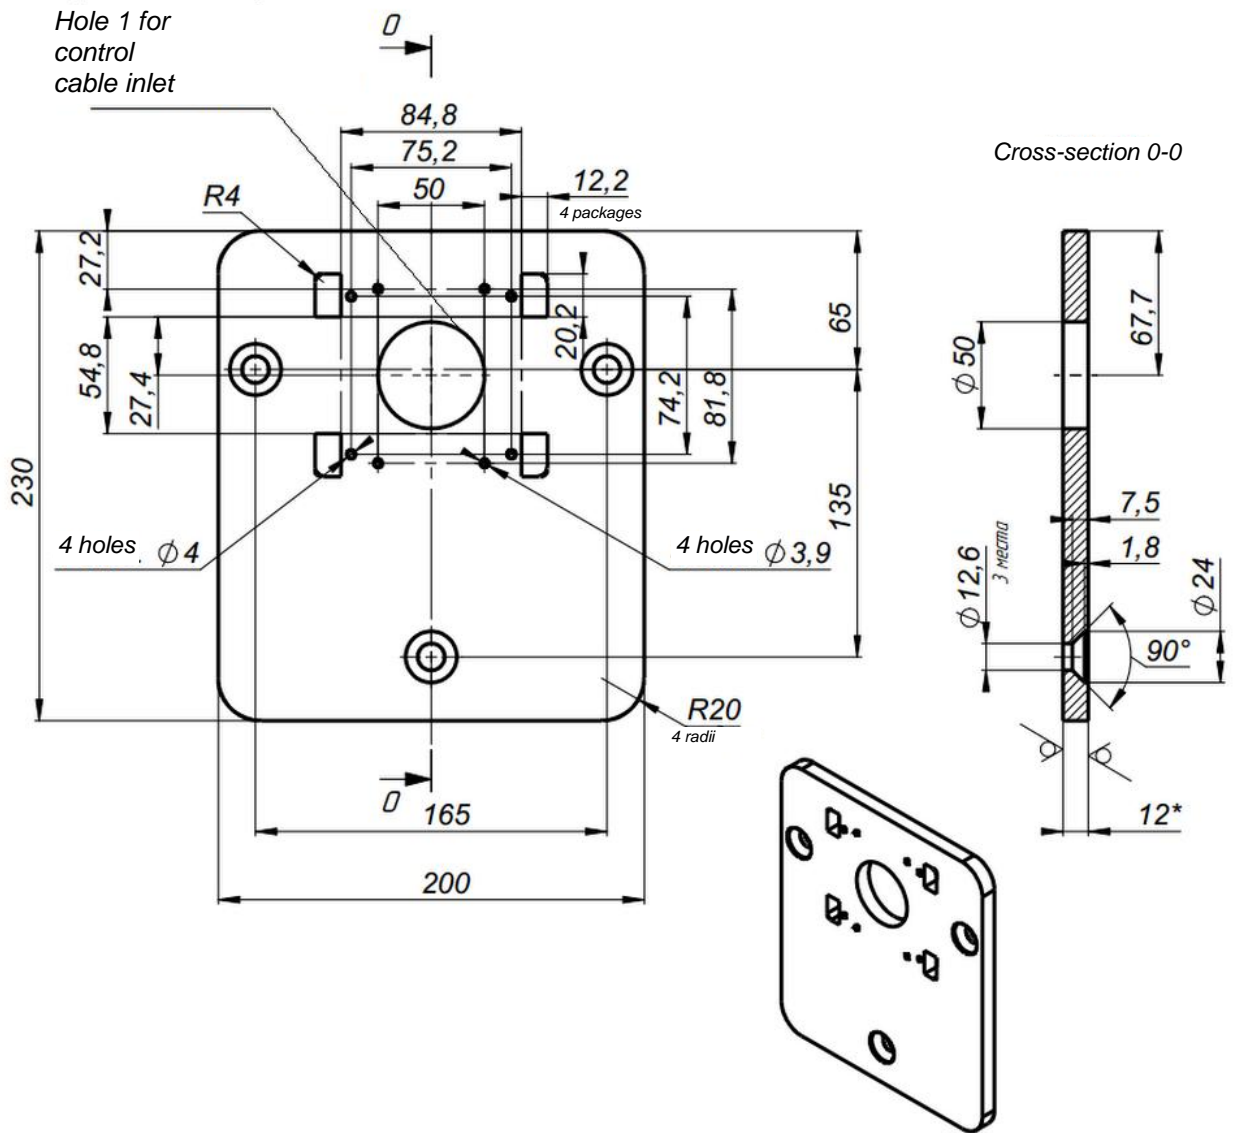
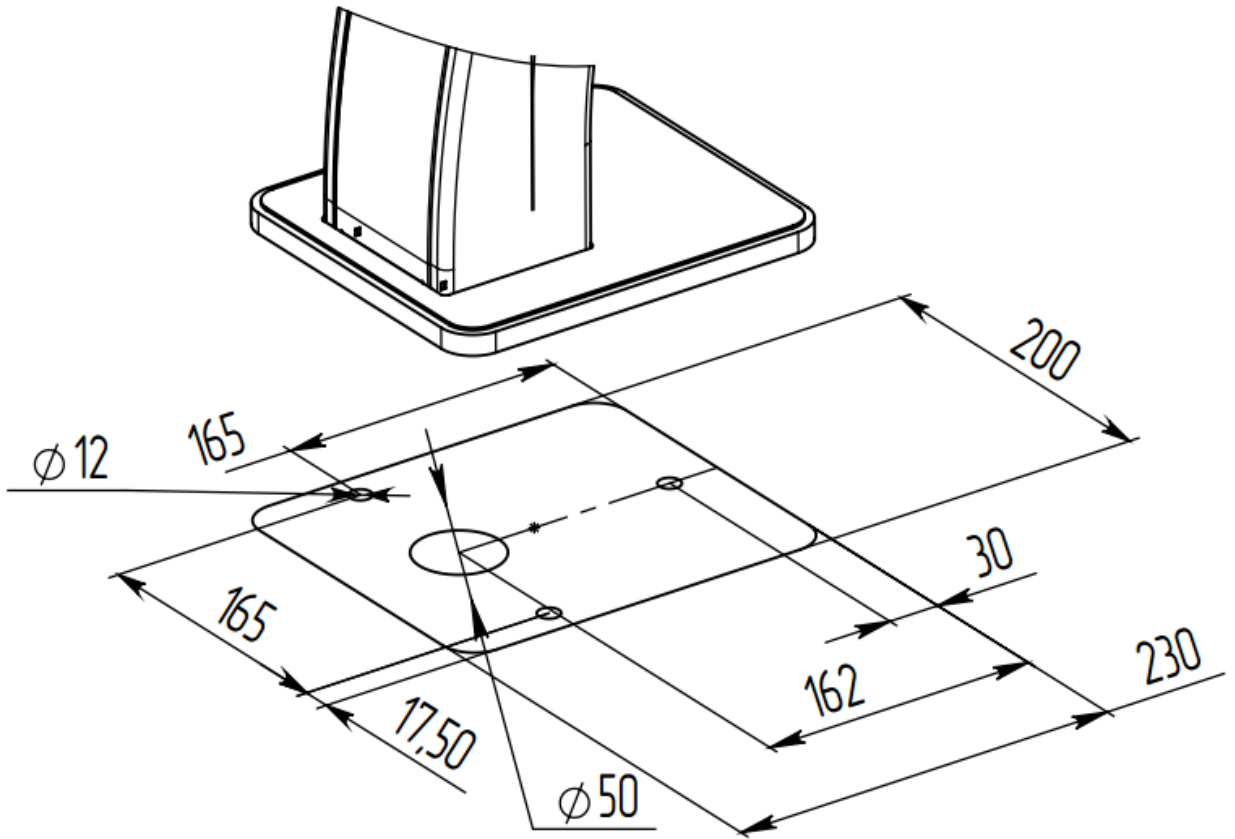

Fig. 6. . Installation dimensions (Provided a drawing of the bottom support of the turnstile)
Fig.13. Location of installation holes and turnstile dimensions
4.2.3. According to the setting dimensions (Fig.6), prepare 3 holes 12 mm in diameter in the floor for fixation anchors of the turnstile housing. Location of the installation holes related to external dimensions of the turnstile is presented in the Appendix 3 (Fig.13). Depth of the hole should exceed the length of the anchor for more than 5mm. Insert the anchors in the holes.
4.2.4. Cable routing is exercised through the hole 1 (Fig.6) located at the lower turnstile panel. It is required to prepare the trench for cable laying. Open the box and unpack:
4.2.7. Mount the turnstile housing to the prepared site (Fig.6). Put remote control panel, PS and, if necessary, ACS and SFAS cables to the turnstile housing. Cables feed will be done through the hole 1 located at the bottom plate of the turnstile (Fig.6). Secure cables with cable ties.